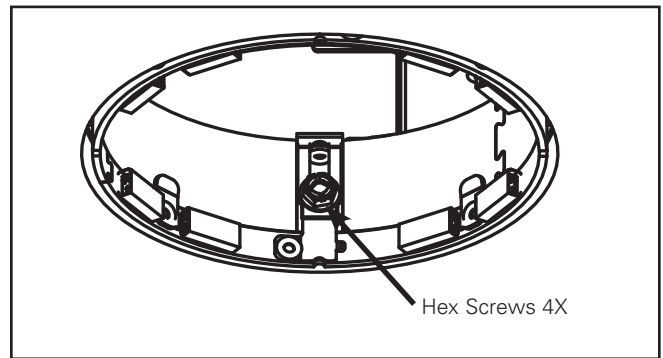

Figure 5.
5. Adjust fixture for ceiling thickness by loosening the hex screws that attach the collar to the housing. Bring bottom edge of collar flush with finished ceiling (Figure 5) and tighten hex screws. If ceiling thickness is greater than 7/8" and up to 1-1/4", replace existing collar with extension collar (CE3R or CE3S) and adjust height using hex screws.